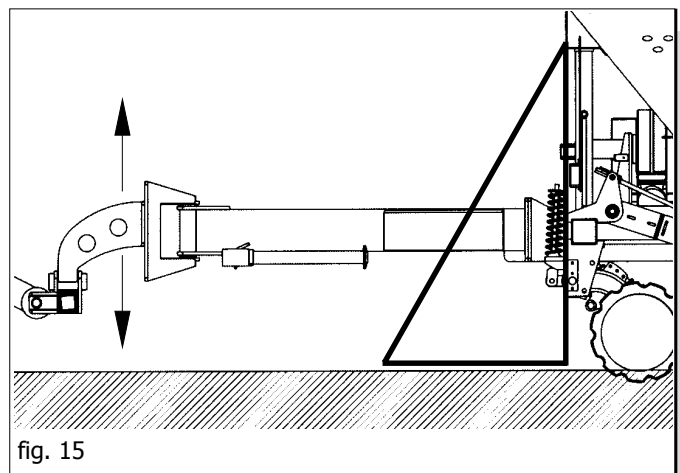

fig. 15
- the position of the coupling of the first and second point for a towed machine (fig. 15).